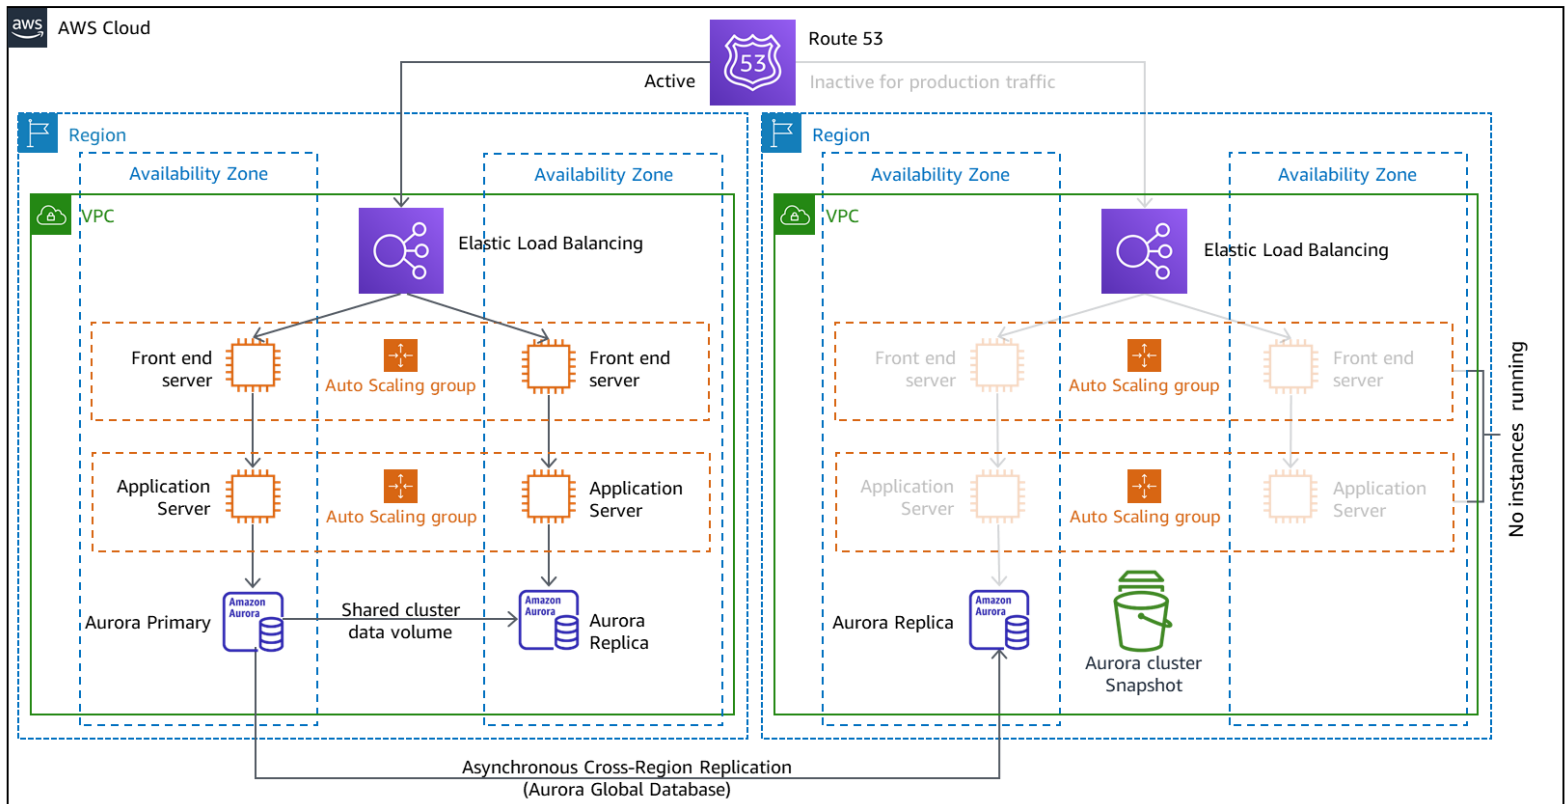

Fig. 1. Pilot light DR strategy
3. Implement a Disaster Recovery Plan with the goal to have a zero downtime. An indicative diagram can be as follows. (Fig. 1. Pilot light DR strategy). To make that, we will need to replicate all the infrastructure in another region but in this case there are only a Replica Data Base.